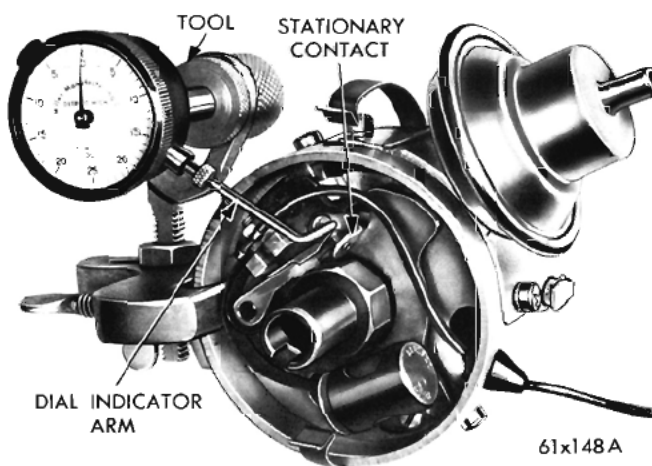

Fig. 10—Adjusting Point Clearance with Indicator
(1) Remove the old contacts and install a new set.
(2) Align the contacts to obtain center contact, by bending the stationary contact bracket only. **Never bend** the movable arm to obtain alignment.
(3) After aligning the contacts, readjust the contact clearance to specifications using a dial indicator (Fig. 10).
(4) Test the dwell angle to show proper degrees of closure. See "Distributor Point Dwell." The lock screw should be loosened just enough so that the stationary bracket can be moved with a slight drag; otherwise,